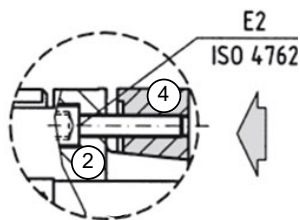
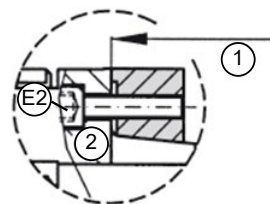

Figure 18: Coupling fixed stop gap ETH100 & 125
Figure 19: Coupling fixed stop 2 ETH100 & 125
- ETH100&125: Clamp collar (see Figure 18 Pos.4) and clutch hub (see Figure 18 Pos. 2) must be loosened.
- ◆ Slip the coupling half onto the motor / gearbox shaft and align to be flush with the shaft if not stated otherwise by Parker (see Figure 18 Pos. 2).
- Tighten the fixing screws (please refer to Figure 18 Pos. E2) crosswise with a torque wrench in 3 turns with 1/3, 2/3 and full tightening torque (please refer to Table 1) until the final tightening torque is attained and the clamp collar touches the coupling half. The dead stop (please refer to Figure 19 Pos. 1) on the coupling half (please refer to Figure 19 Pos. 2) prevents too high pretension of the conical clamp collar and ensures high rotational accuracy.